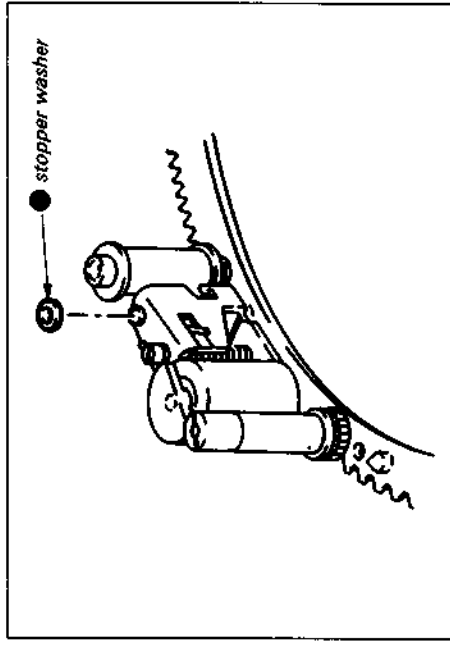

Fig. 7-25.
- 5) Mount the stopper washer ●. (See Fig. 7-25.)